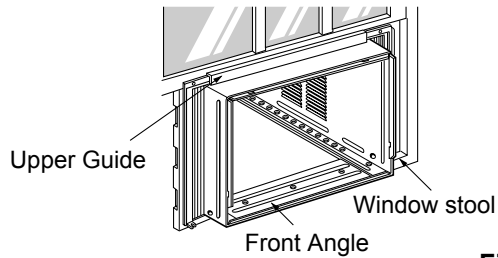

Fig. 1
1. Remove the screws which fasten the cabinet at both sides and at the back. (Fig.1)
1. Open the window. Mark a line on center of the window stool. Carefully place the cabinet on the window stool and align the center mark on the bottom front with the center line marked in the window stool. (Fig. 1)